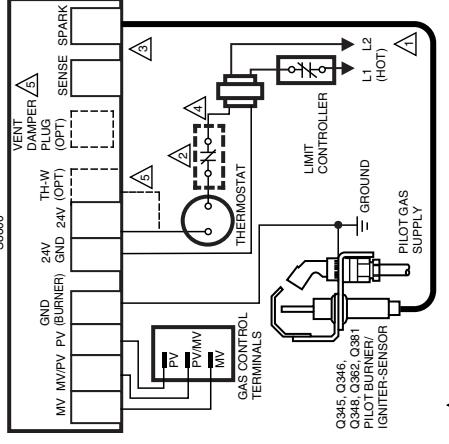

Fig. 8. Typical wiring connections for 24 volt control in intermittent ignition system with S8600.
- Connect control circuit to the gas control terminals. See Fig. 8.